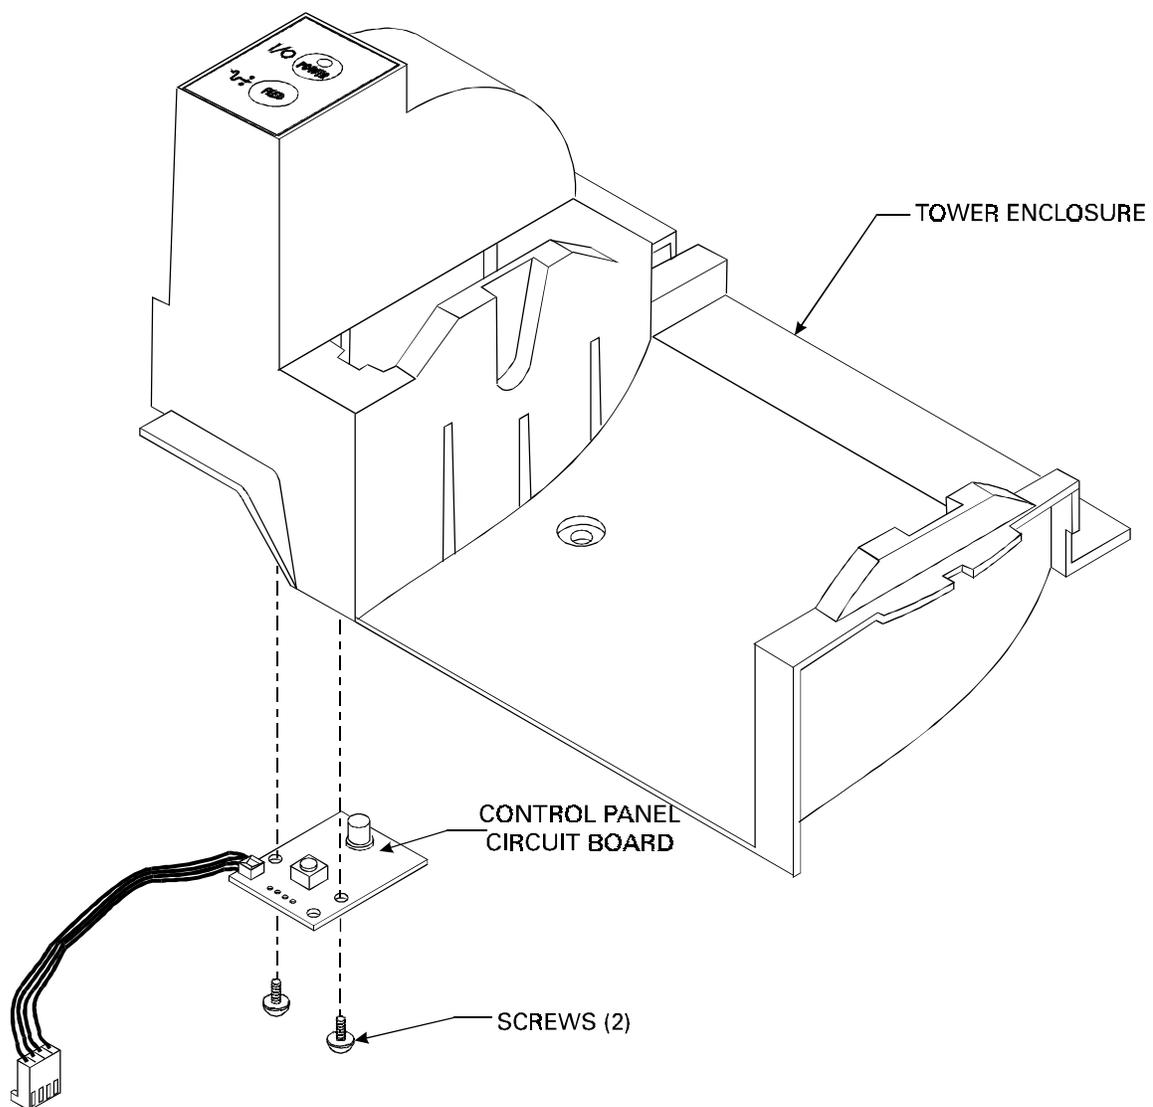

Figure 18. Control Panel Circuit Board Installation
4. Remove the two screws securing the Control Panel Circuit Board to the Tower Enclosure (see Figure 18).
1. Position the Control Panel Circuit Board into the Tower Enclosure and secure it using the two screws (see Figure 18).